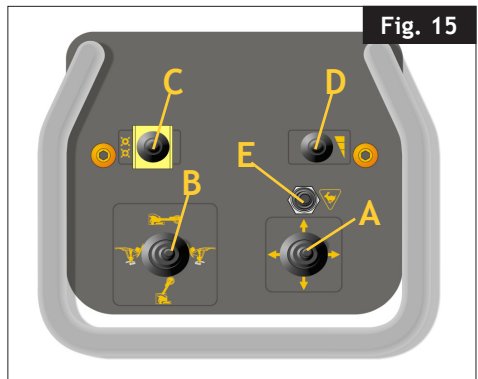

Fig. 15
- Four-position lever (A, Fig. 15) that:
- 4-position lever (B, Fig. 15) that:
- Two-position lever (C, Fig. 15) that controls turntable opening and closing.
- Three-position lever (D, Fig. 15) that controls the rotational speed of the turntable.
- Button (E, Fig. 15) that, when activated together with the trolley translation control, increases the speed.